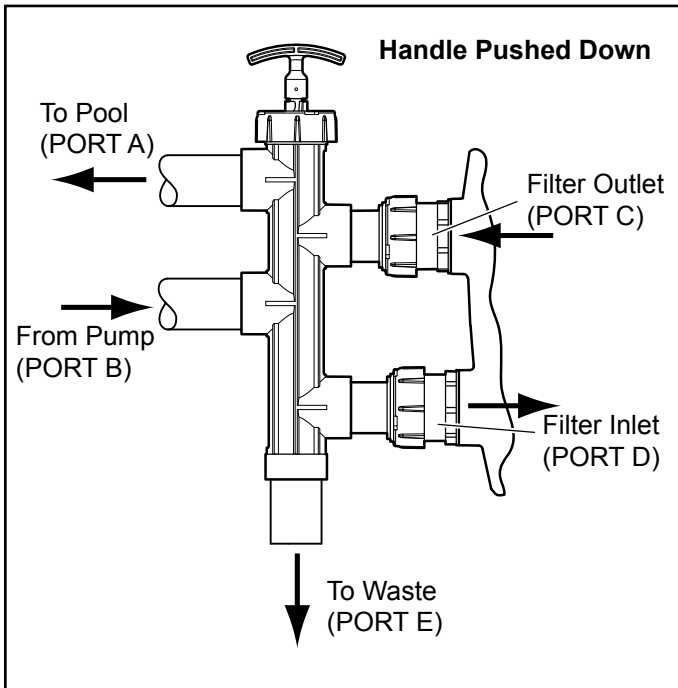

Figure 5. SVLV2 Plumbing Configuration for DEL, DEV and JS Series Filters - Filtration Mode
**NOTE** Certain filters may require only one (1) versa-coupler (p/n 8044).
1. Slide one (1) versa-coupler into **PORT C** and one (1) into **PORT D** on the Slide Valve.
4. Clean the versa-coupler and glue onto the filter. Hold the coupler in place for a minimum of one (1) minute.
**NOTE** Refer to Figure 5 for Steps 6 and 7.